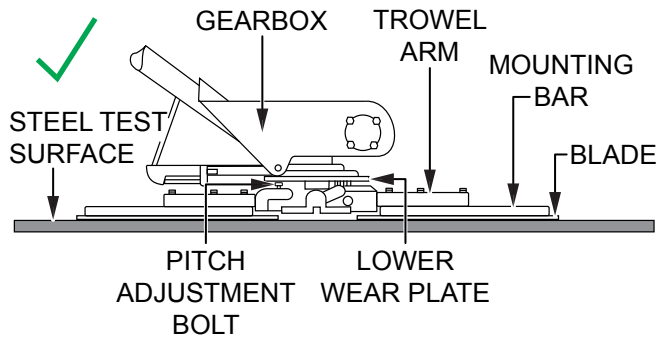

Figure 22. Blades Pitched Flat (Correct)
- Pitch the blades as flat as possible (Figure 22). The pitch adjustment bolts should barely contact (0.10 inch maximum clearance) the lower wear plate. All adjustment bolts should be spaced the same distance from the lower wear plate. If any one of the bolts does not make contact, adjustment is necessary.